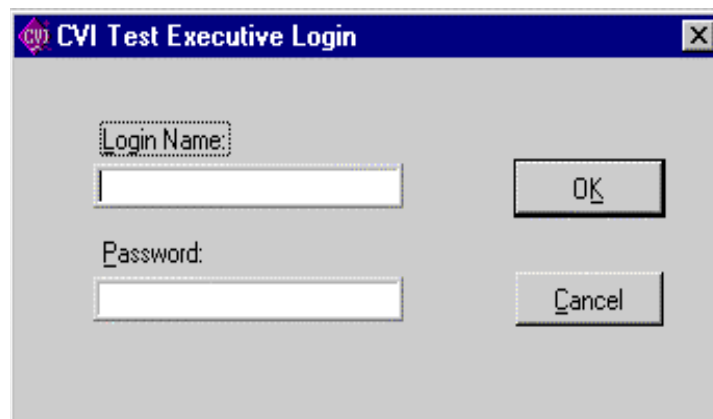

Figure 2-1. Login Dialog Box
2. Enter your name and password as shown in Figure 2-1. The password you provide determines the operating level of the Test Executive. For this example you work at the Operator level, so type operator in the Login Name and Password fields.